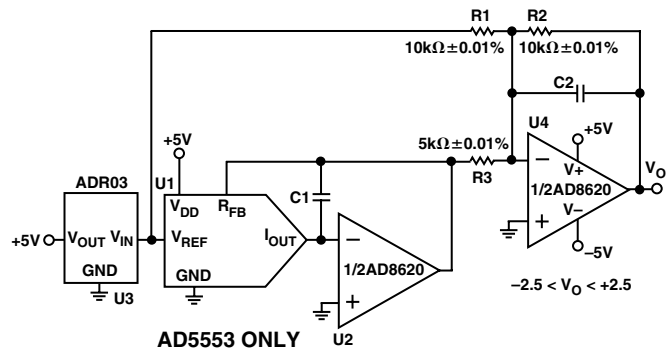

Figure 9. Four-Quadrant Multiplying Application Circuit
In some applications, it may be necessary to generate the full 4-quadrant multiplying capability or a bipolar output swing. This is easily accomplished by using an additional external amplifier U4 configured as a summing amplifier (see Figure 9). In this circuit, the second amplifier U4 provides a gain of 2 that increases the output span magnitude to 5 V. Biasing the external amplifier with a 2.5 V offset from the reference voltage results in a full 4-quadrant multiplying circuit. The transfer equation of this circuit shows that both negative and positive output voltages are created as the input data (D) is incremented from code zero ($V_{OUT} = -2.5$ V) to midscale ($V_{OUT} = 0$ V) to full-scale ($V_{OUT} = +2.5$ V).